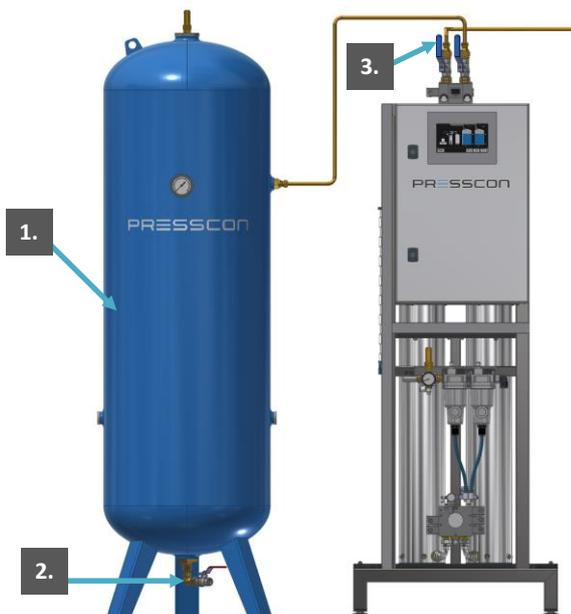

Figure 43. Setup with high pressure storage vessel
The high-pressure storage vessel (Figure 43 no. 1) is used to create a nitrogen buffer that can be blown directly when needed. The vessel must meet the following criteria:
2. There should be no condense water in the vessel. Drain the condense water by opening the ball valve at the bottom. (Figure 43 no. 2) If wanted, connect a hose to the ball valve to drain the water.